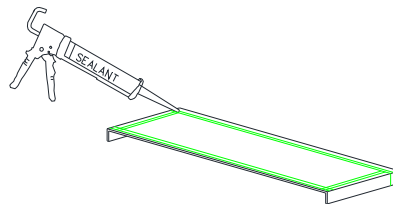

Figure 15:
- With bottom side of sillpan up, apply a 3/8" bead of compatible sealant 1/2" in from interior leg. Sealant bead to run across the bottom as well as up each vertical leg of the sillpan. Also apply sealant beads near the sides and across the front (Figure 15).